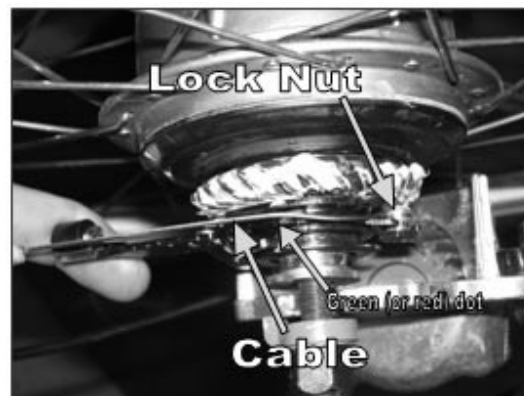

Figure 5: Route cable around cassette joint pulley behind tabs with colored dots (red or yellow).
2. Rout the cable back into the groove of the cassette joint pulley. The cable should wrap around the cassette joint pulley in a counter clockwise direction (Figure 5) such that it is to the inside (closer to the hub) of the tabs with the colored dots (red or yellow).